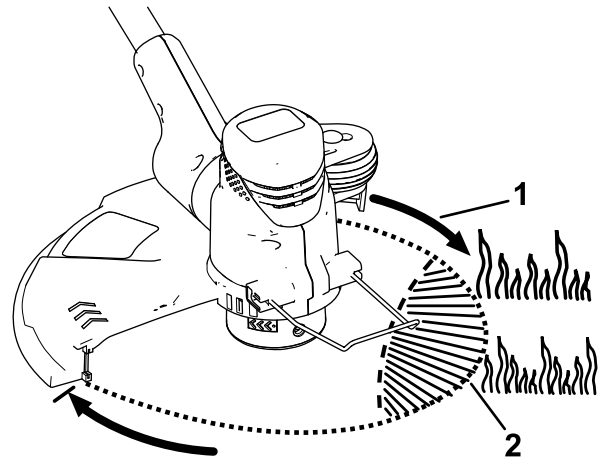

Figure 17
2. Push in the tabs on the side of the spool retaining cover (Figure 17).